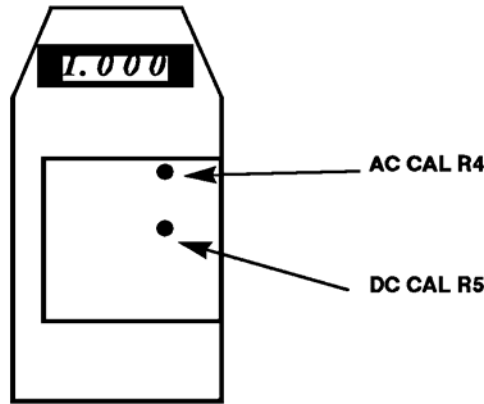

Figure 1. Adjustment locations.
(1) Connect calibrator OUTPUT terminals to TI V and COMMON terminals.
(2) Press TI range pushbutton and set calibrator output as specified in table 3. If TI does not indicate within the specified limits, perform b below.
b. **Adjustments.** Set TI range to 200 mV and calibrator for a 190 mV dc output. Adjust DC CAL R5 (fig. 1) for a TI indication of 190.0 (R)
- (1) Press **DC/AC** pushbutton to **AC** (in) and press the **200 mV** range pushbutton.
- (2) Set TI range and calibrator for voltages and frequencies listed in table 4. TI will indicate within the specified limits; if not, perform **b** below.
b. Adjustments. Set TI range to **200 mV** and calibrator for a 190 mV, 45 Hz output. Adjust AC CAL R4 (fig. 1) for a TI indication of 190.0 (R).